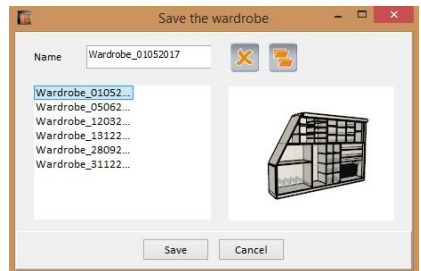

Fig. 30 - Dialog box for saving a new wardrobe model
- **'Save as'** - save the current design on your computer (the default save location is the **warMagazine** folder in the **SzafyWnekowe** directory in program location, i. e. **c:\CadProjekt\CAD Decor Pro\SzafyWnekowe\db\warMagazine**). When you click on the name of a saved wardrobe design, a schematic view of the model is shown on the right side of the **'Save wardrobe'** window (Fig. 30).